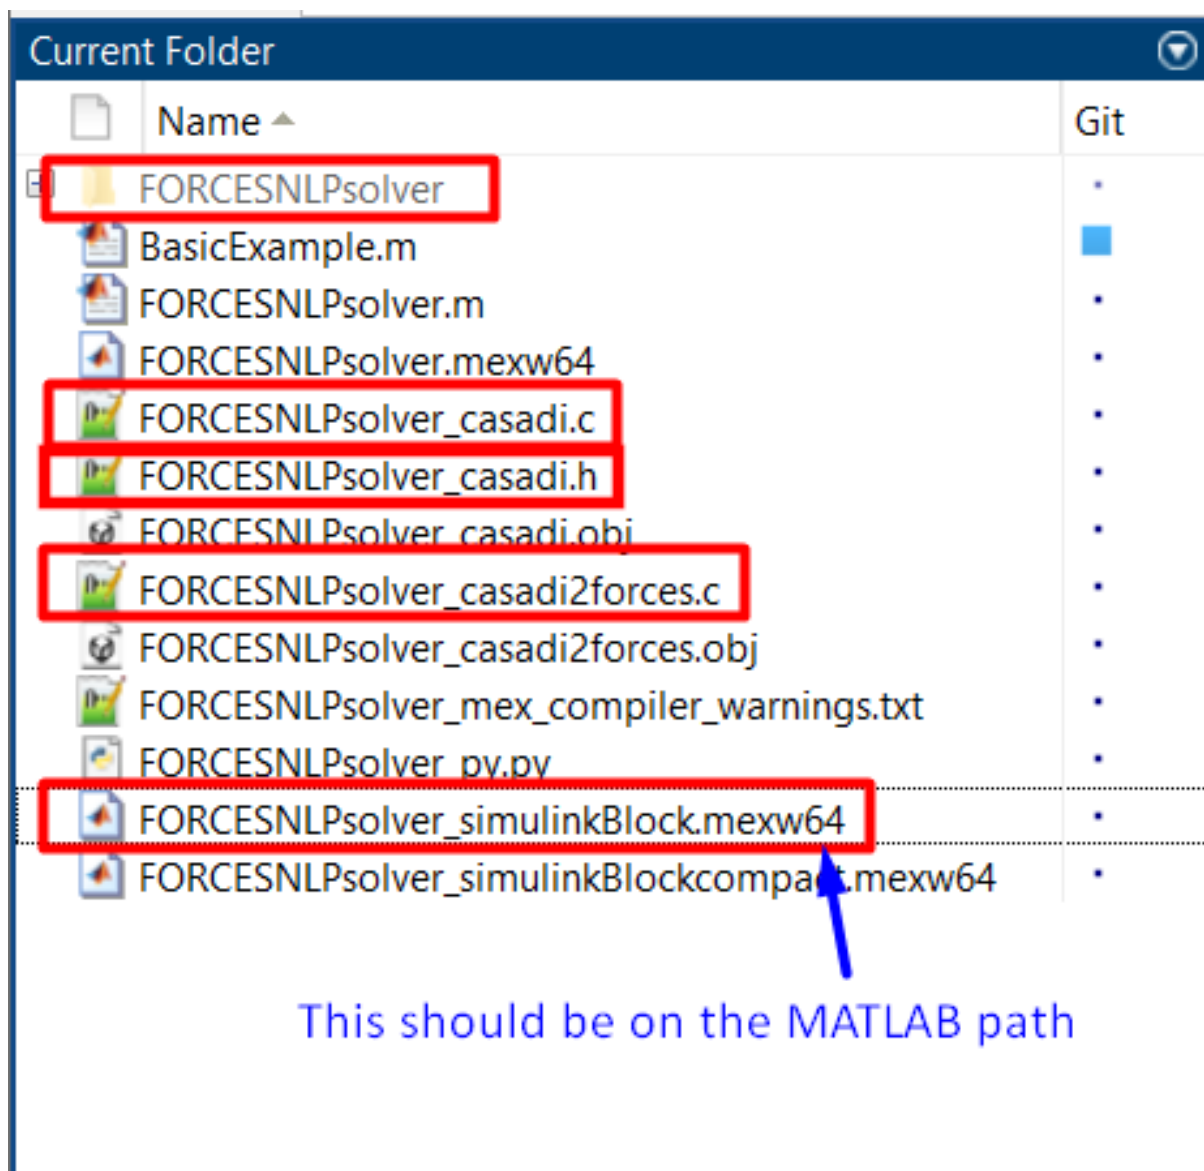

Figure 13.63: Add the folder containing the .mexw64 solver file to the Matlab path.
4. (Figure 13.63) Make sure the FORCESNLPsolver_simulinkBlock.mexw64 file (created during code generation) is on the Matlab path.